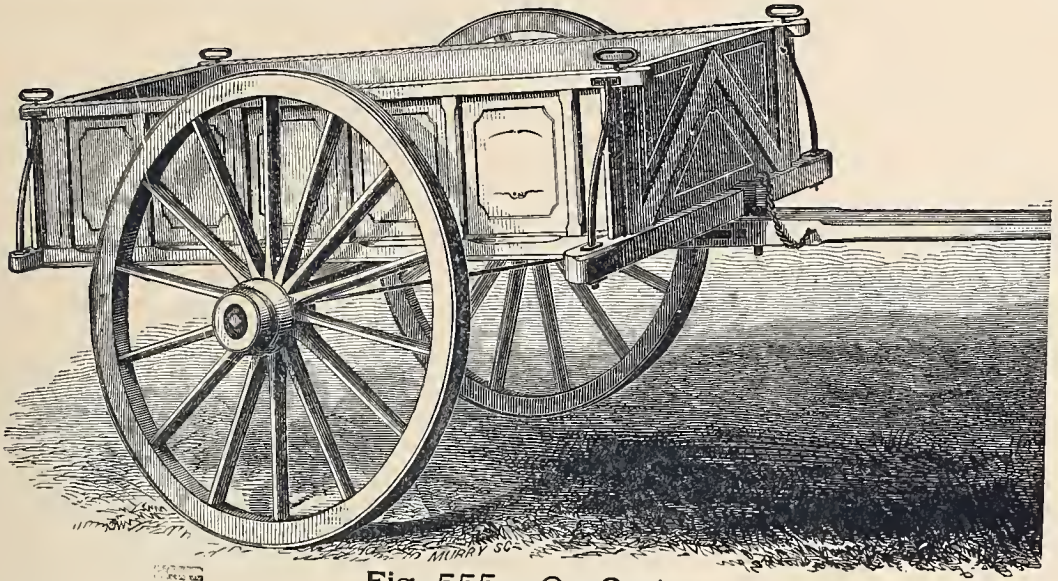

Fig. 555.—Ox-Cart.
**The Ox-Cart.**—We make several sizes, representing at *Fig. 555* our **HEAVY CART**, which is the style and size most used. It is very strong and capacious, and amply equal to any requirement of farm or road work.